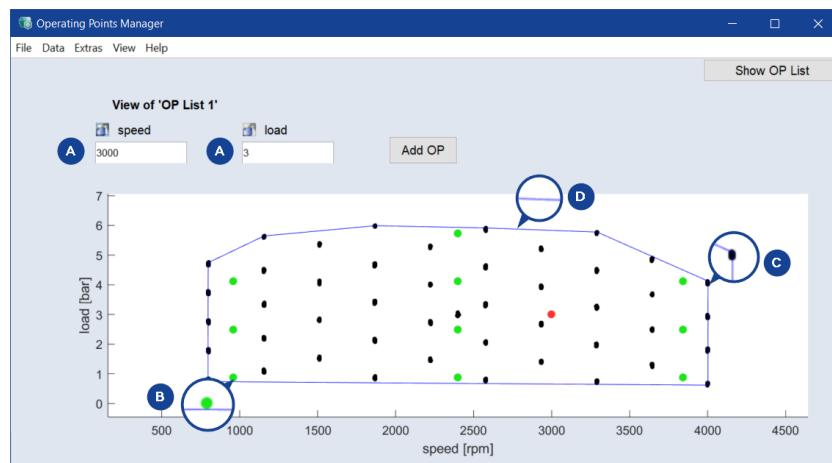

Fig. 6-6: Operating points manager (A: input fields for operating point values, B: operating points, C: measurement points, D: convex hull of the plot)
Operating Points Manager opens (see Fig. 6-6: on page 117).
- Enter the desired values in the input fields above the plot (**(A)** in Fig. 6-6: on the next page).
5. To visualize the operating points in the plot (**(B)** in Fig. 6-6: on the next page), select **View > Show OPs**.
6. To visualize the measurement points in the plot (**(C)** in Fig. 6-6: on the next page), select **View > Show Measurement Points**.
7. To visualize the convex hull of the plot ((D) in Fig. 6-6: below), select **View > Show Convex Hull**.